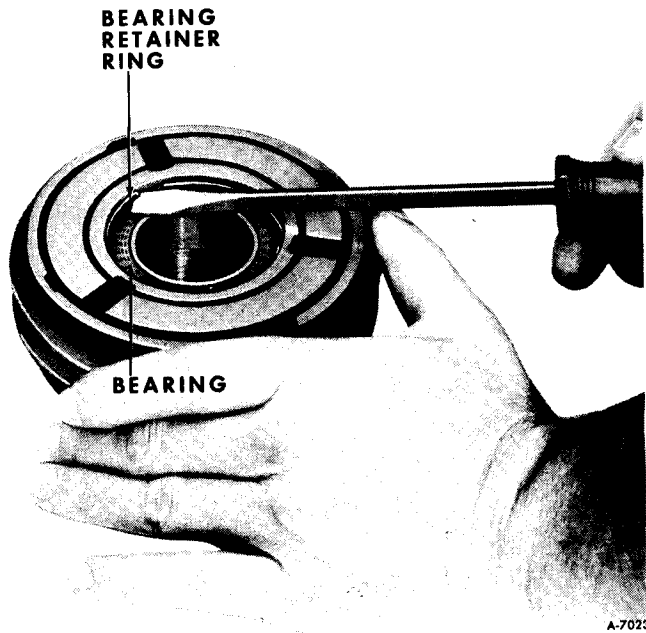

Figure 80—Removing Pulley and Bearing Retainer Ring
3. Remove pulley bearing retainer ring with a small screwdriver or pointed tool (figure 80).